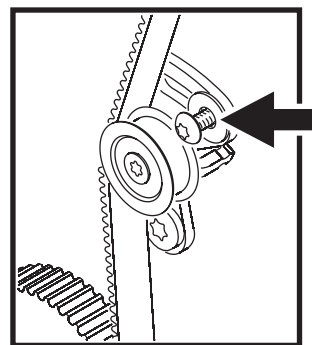

Figure 12
14. See Figure 12. Loosen the color wheel drive belt tensioner locking screw (arrowed) and loosen the belt.